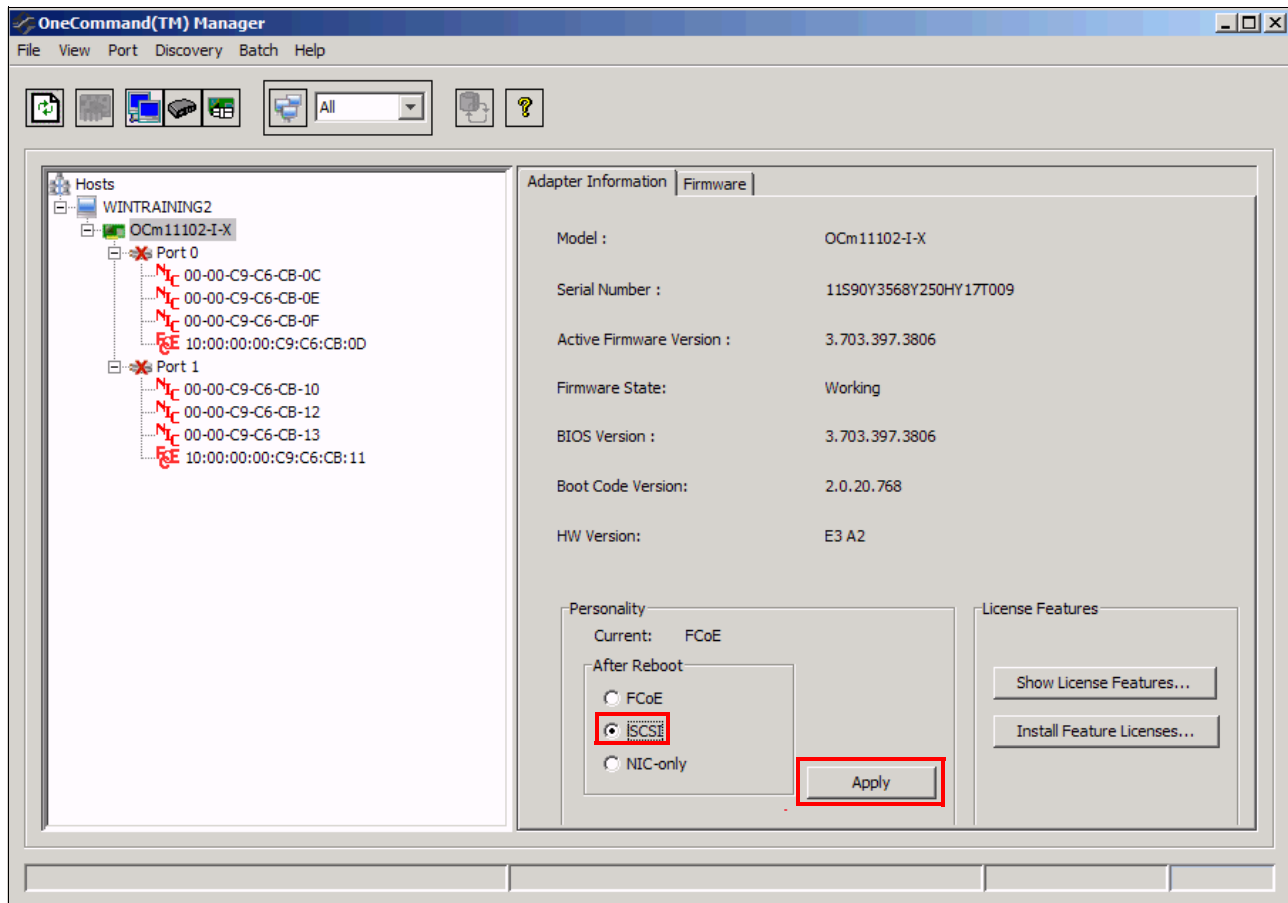

Figure 7-28 OneCommand Manager choosing a personality
You can change the personality, which was required for our test scenarios, by using the OneCommand Manager Utility as shown in Figure 7-28. To change the personality, follow these steps:
2. On the **Adapter Information** tab, in the Personality area, select the personality that you need. In this example, we selected **iSCSI**. Then click **Apply** (Figure 7-28).